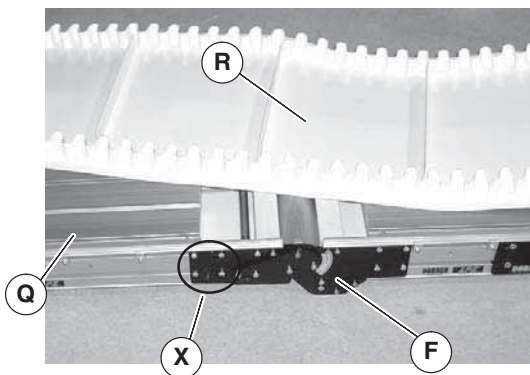

Figure 7
- Slide frame (Figure 7, item Q) into lower knuckle (E). Tighten screws (X) to 60 in-lb (7 N-m) on both sides of conveyor.